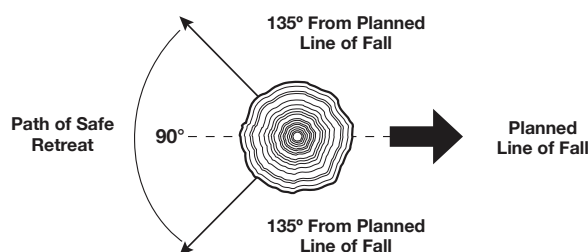

Fig. 9
- Determine a safe and expedient escape route. Clear the area around the tree and make sure there are no obstructions blocking the escape route. Establish a 90° corridor of escape, approximately 135° from the line of fall (Fig. 9).